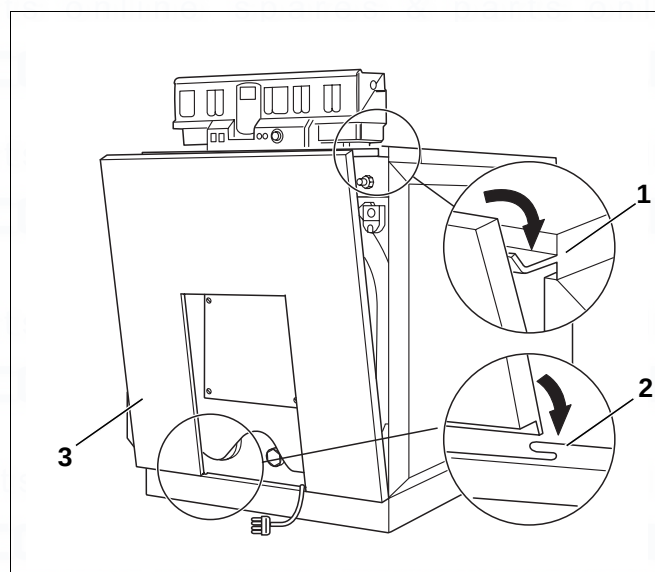

Fig. 41 Installation – front panel
- Attach the front panel (Fig. 41, [3]) at the bottom in the centre to the plinth panel (Fig. 41, [2]).
- Attach the front panel at the top to the folded edge of the front hood (Fig. 41, [1]).